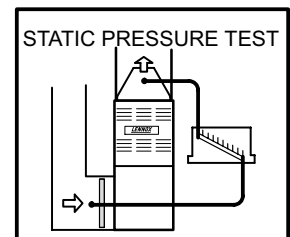

FIGURE 22
- 1 - Tap locations shown in figure 22.